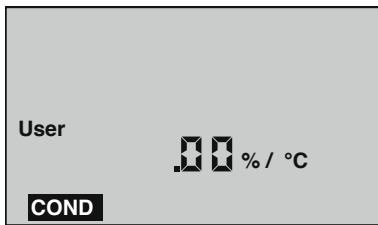

Figure 3
b. With "User" selected, press CAL / MCLR . If the display does not show .00%/°C, hold long enough to bring the tempco to .00%/°C (see Figure 3).